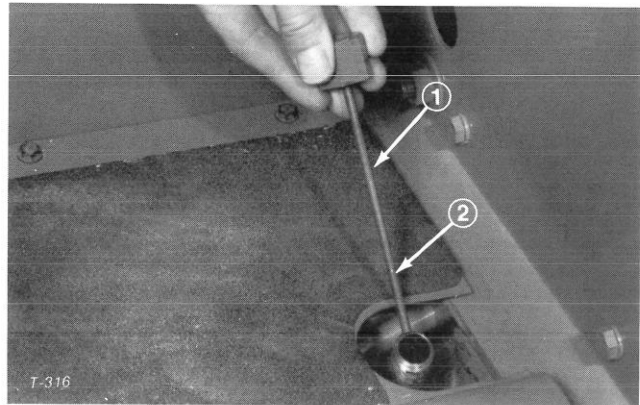

Figure 69
7. Remove dipstick from axle filler tube and fill axle to proper level (Fig. 69). Reinstall the dipstick.